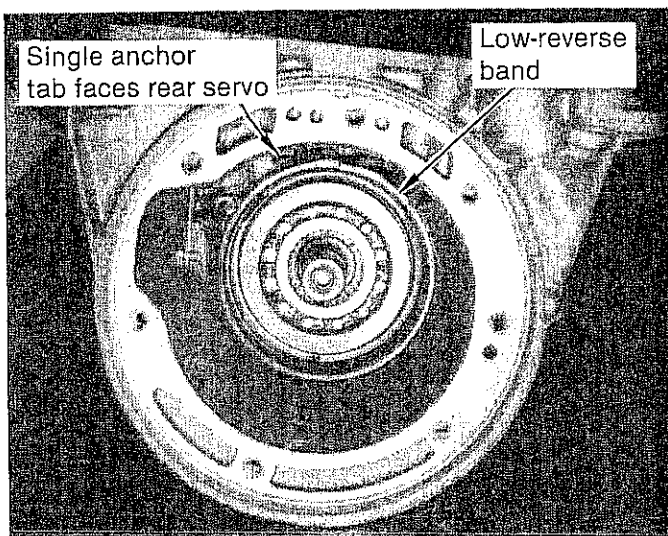

FIGURE 55
STEP 9. Install B&M low reverse band. Guide band into case and position at rear of transmission. Single anchor tab must face rear servo. (See Fig. 55)